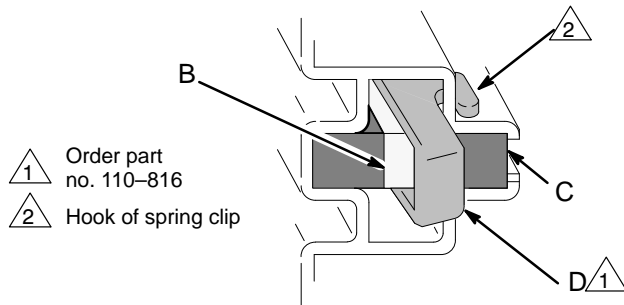

Fig. 9 01227
2. Push in the spring clip (E) to unhook it, and then pull it out. See Fig. 9.